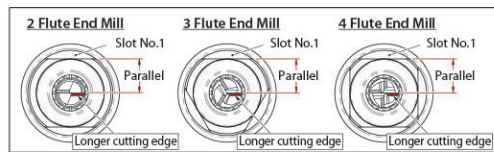

Fig. 2-3
4. Turn the longer cutting edge of end mill to be parallel to the Slot No.1 of the clamping nut.(Fig. 2-3)